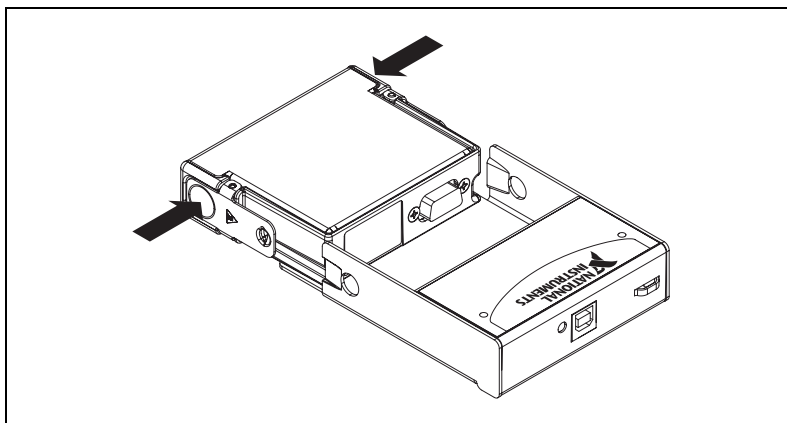

Figure 5. Module Installation
The NI 9265 C Series module and NI USB-9162 carrier are packaged separately. Refer to Figure 5 while completing the following assembly steps:
3. Align the I/O module with the carrier, as shown in Figure 5.